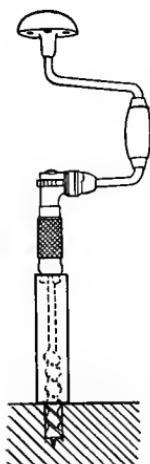

FIG. 155.—A Mail-tube Depth-Gauge for Boring Holes.
**A Depth-Gauge for Boring** such holes, and a piece of a mailing-tube will serve the purpose (Fig. 155). The tube should be cut off to the proper length so its top will extend to the lower end of the bit-brace when the depth of the hole has been reached. Then it will only be necessary to keep an eye on the top of the tube, and stop boring when the brace has reached that point.